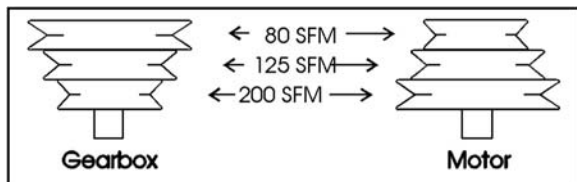

Figure 12: Blade speeds and belt positions
3. With the arm in its fully lowered position, remove the pulley cover lock screw and open the pulley cover. Refer to *Figure 12* for speeds and belt positions.